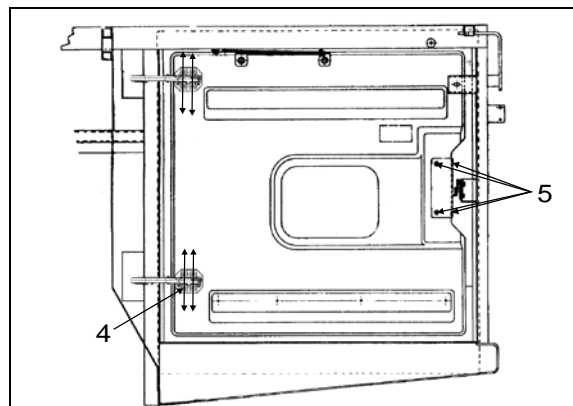

FIGURE 74: PORTE DU COMPARTIMENT MOTEUR18633\_1
8. Desserrer les vis (4, Figure 74).